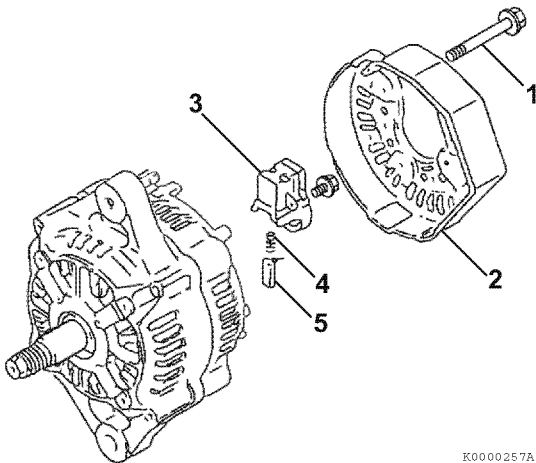

Figure 11-17
- Reinstall the brush holder (**Figure 11-17, (3)**), springs (**Figure 11-17, (4)**) and brushes (**Figure 11-17, (5)**).
- Reinstall the rear cover (**Figure 11-17, (2)**) to the rear frame housing with three bolts (**Figure 11-17, (1)**).